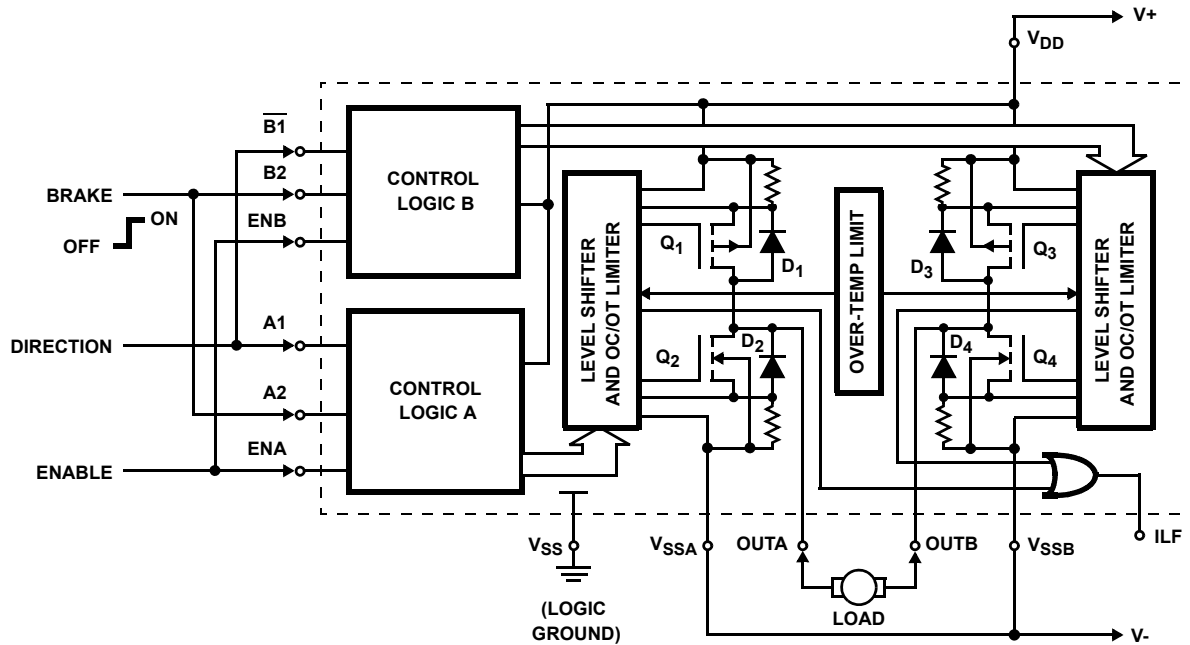

FIGURE 2. TYPICAL MOTOR CONTROL APPLICATION CIRCUIT SHOWING DIRECTIONAL AND BRAKING CONTROL
- See the Truth Table and the V_{EN} to V_{OUT} Switching Waveforms. Current I_O refers to I_{OUTA} or I_{OUTB} as the output load current. Note that ENA controls OUTA and ENB controls OUTB. Each Half H-switch has independent control from the respective A1, A2, ENA or B1, B2, ENB inputs. See the terminal Information table for external pin connections to establish mode control switching. Figure 2 on page 4 shows a typical application circuit used to control a DC Motor.
The HIP4020 is designed to detect load current feedback from sampling resistors of low value in the source connections of the output drivers to V_{DD} , V_{SSA} and V_{SSB} (see Figure 2). When the sink or source current at OUTA or OUTB exceeds the preset OC (Overcurrent) limiting value of 550mA typical, the current is held at the limiting value. If the Over-Temperature (OT) Shutdown Protection limit is exceeded, temperature sensing BiMOS circuits limit the junction temperature to 150°C typical.
Figure 2 shows the Full H-switch in a small motor-drive application. The left (A) and right (B) H-switch's are controlled from the A and B inputs using the A and B control logic to the MOS output transistors Q_1 , Q_2 , Q_3 , and Q_4 . The circuit is intended to safely start, stop, and control rotational direction for a motor requiring no more than 0.5A of supply current. The stop function includes a dynamic braking feature.